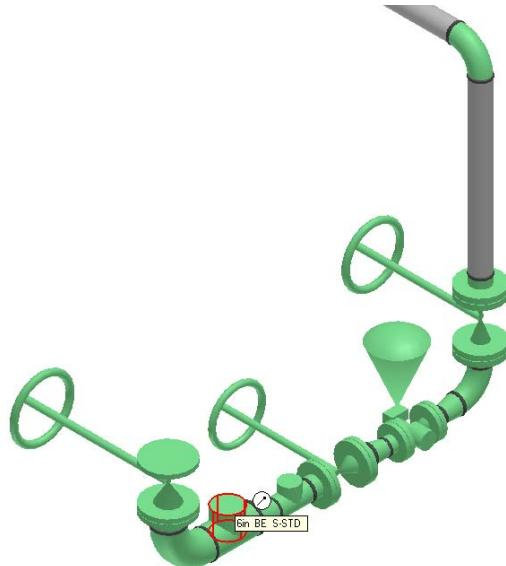

Figure 86: Port 3 of a Tee
45. Select **port 3** of the 6 inch tee, as shown in Figure 86, by using the SmartSketch options of SP3D.